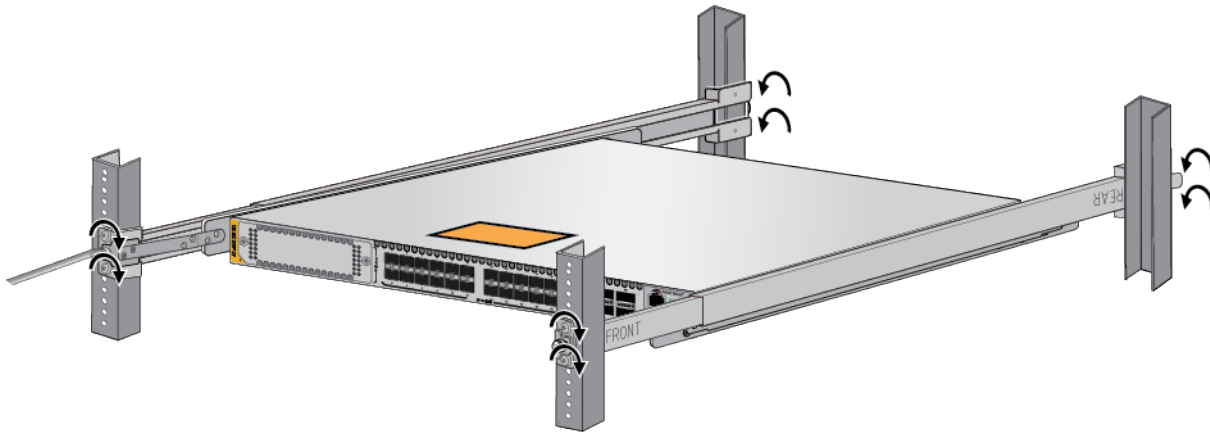

Figure 102. Tightening the Screws on the Outer Rails
5. Finish tightening the eight screws on the outer rails to secure the rails to the equipment rack. See Figure 102.